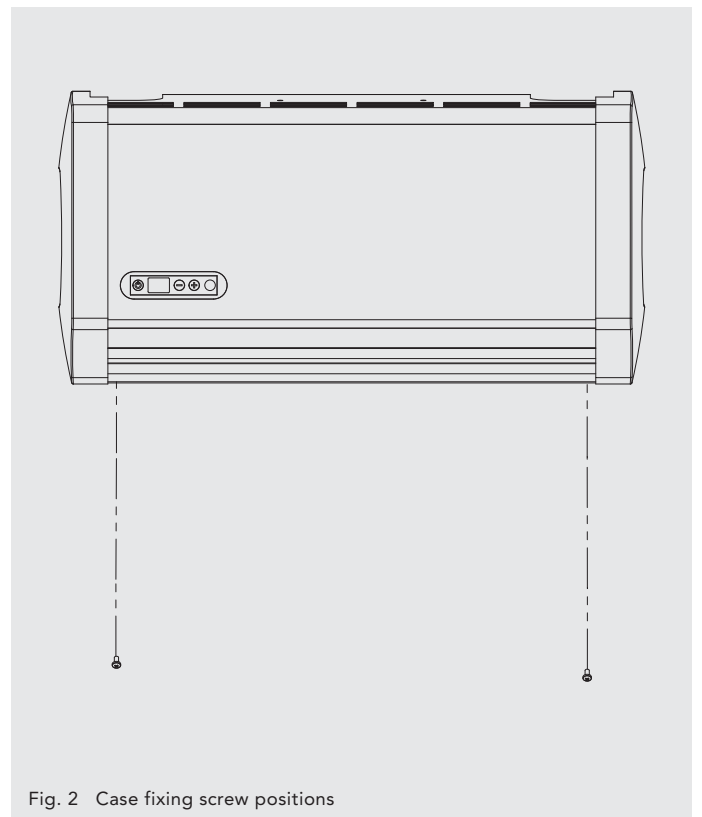

Fig. 2 Case fixing screw positions
- Remove the 2 screws at each end of the outlet grille (see fig. 2).